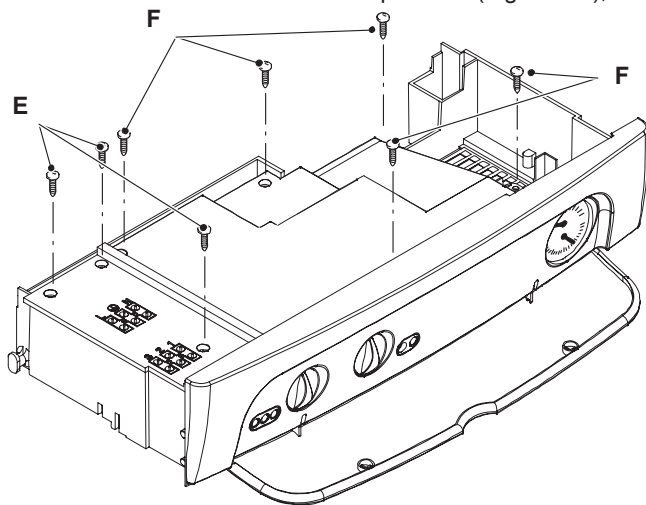

Figure 2.5
- 5 Remove the screws E and remove the service panel (Figure 2.5);
- 6 To gain access to the electronic regulation PCB remove the screws F and remove the control panel lid (Figure 2.5);